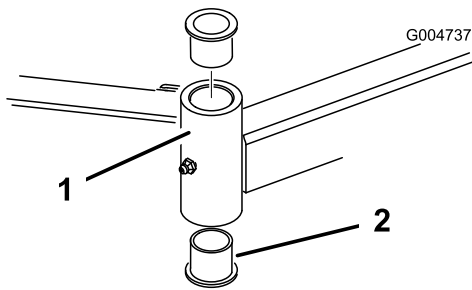

Figure 112
4. Insert a pin punch into the top or bottom of the mounting tube and drive the bushing out of the tube (Figure 112).